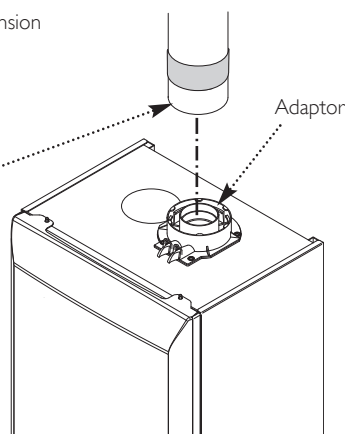

Fig. 44
17. Engage the extension into the adaptor up to this position (Fig. 44). Once the installation of the flue is complete and all support brackets are securely in place remove the tape.